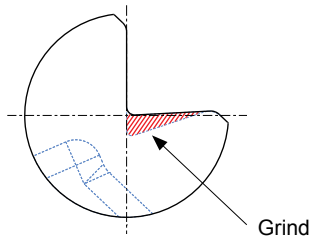

Figure 3
5. **Coining or imprinting marks on part** – Bender is set excessively deep. See setup instructions. For additional over-bending, grind bending face slightly. See (Fig. 3).